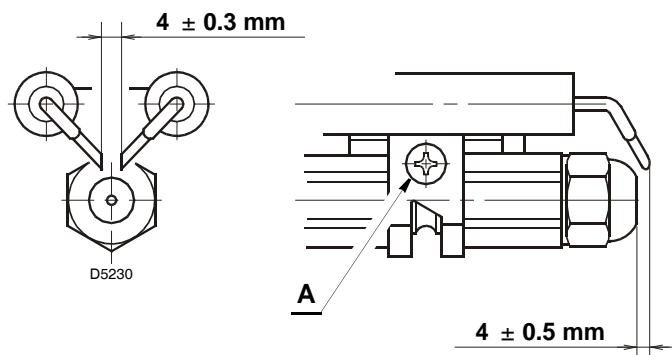
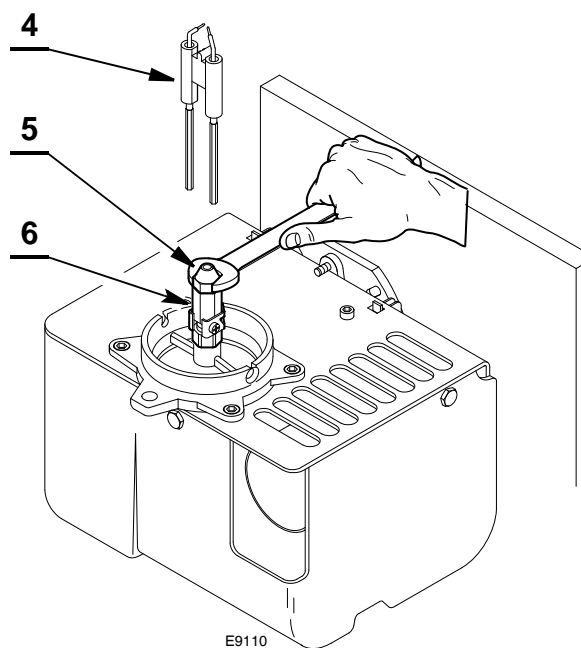

Fig. 22
Fig. 25
Before removing or assembling the nozzle, loosen the screw A) (Fig. 22) and move the electrodes ahead.
- Remove the electrodes assembly 4)(Fig. 25) from the nozzle holder 6) after losing its fixing screw A)(Fig. 22 on page 21).
- Replace the nozzle 5)(Fig. 25) and screw the new one on properly, holding it as illustrated in figure.